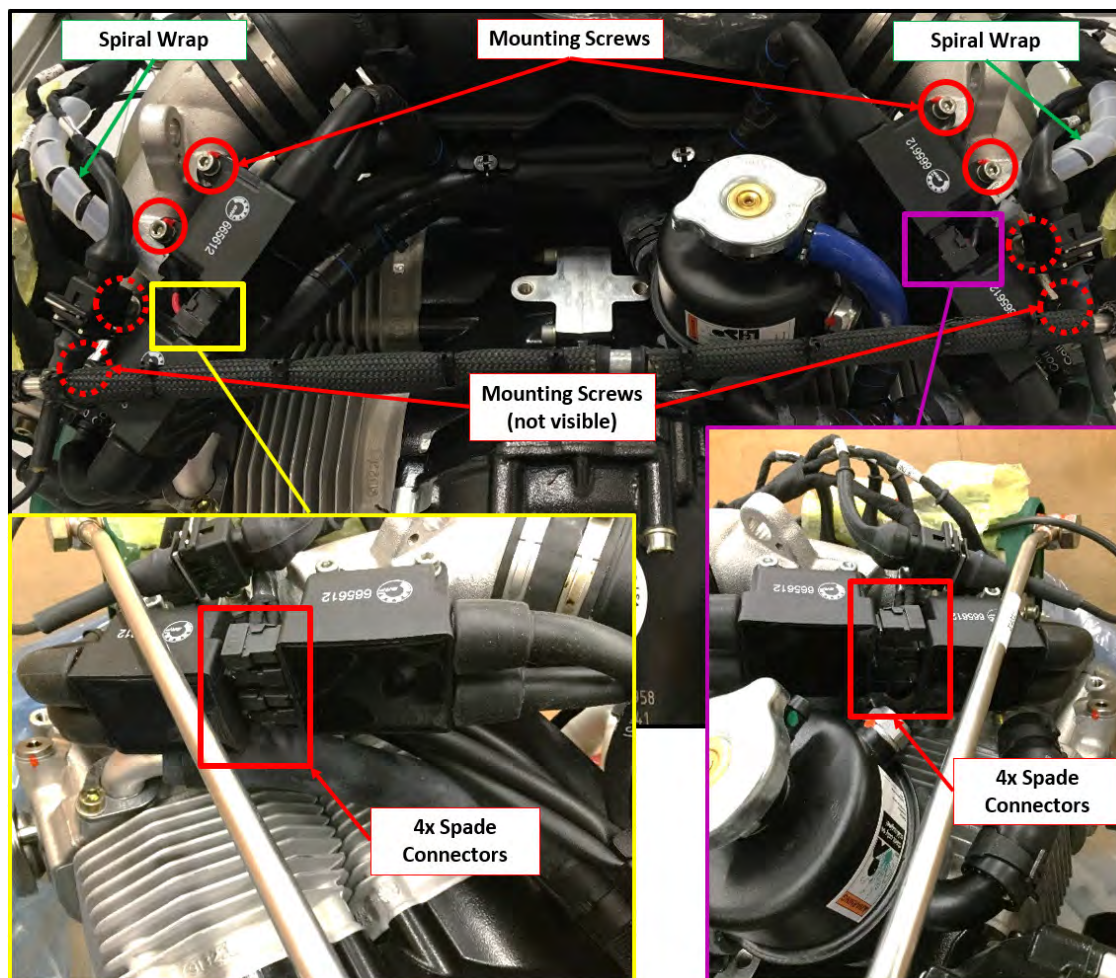

FIGURE 17-26
3. Remove two M5 Allen mounting screws on each engine ignition coil pack as shown in Figure 17-26.